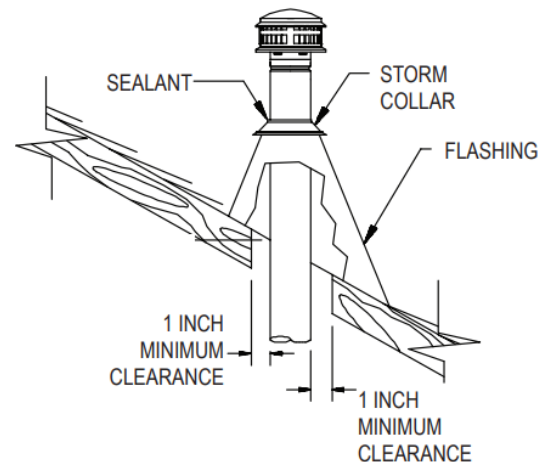

Figure 4
11. A non-hardening sealant should be used around the edges of the flashing base where it meets the roof. Non-hardening sealant is placed around the joint between the Flashing and the vertical Pipe Section. The Storm Collar is then placed over this joint to make a watertight seal (Figure 4)